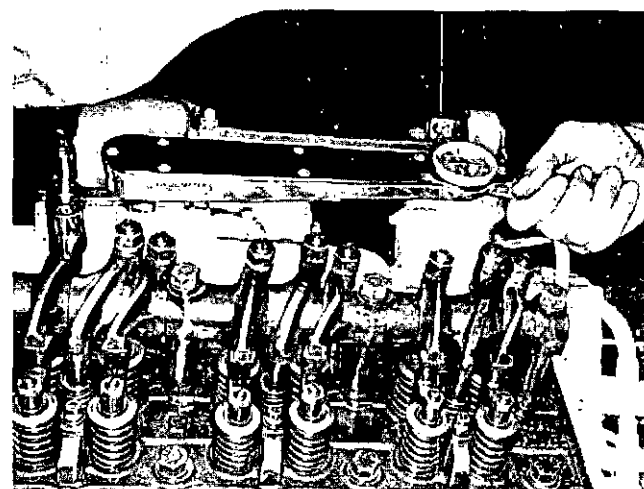

Fig. 5-30, V114115. Tightening adjusting screw locknut
3. Hold injector adjusting screw and tighten injector adjusting screw locknut to values indicated in Table 5-7. When ST-669 Adapter is used, nut torque is reduced to compensate for additional torque arm length, Fig. 5-30.